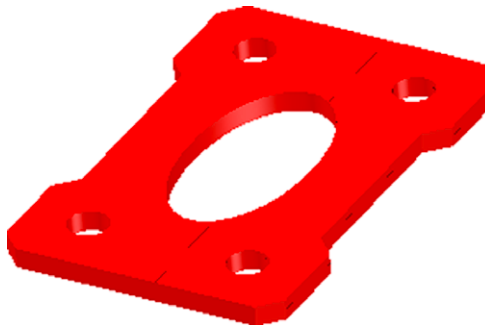

Fig. 17.21 First example – 2D outlines in 3D space
First example – 2D outlines in 3D space (Fig. 17.21)
7. Place in the **View/Visual Style/Realistic** visual style. Extrude the region to a height of **10** (Fig. 17.21).